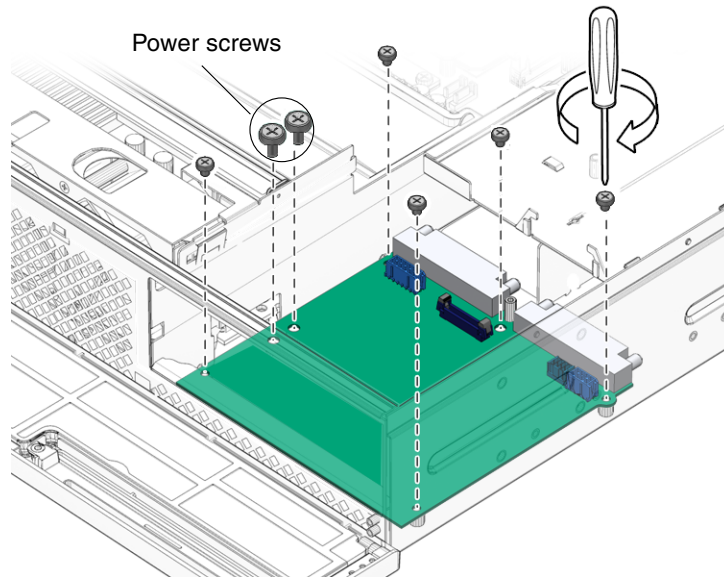

FIGURE 5-31 Securing the Power Board to the Chassis
3. Install the five screws and two power screws to secure the power board to the chassis (FIGURE 5-31).